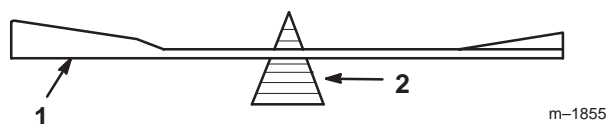

Figure 34
2. Check the balance of the blade by putting it on a blade balancer (Fig. 34). If the blade stays in a horizontal position, the blade is balanced and can be used. If the